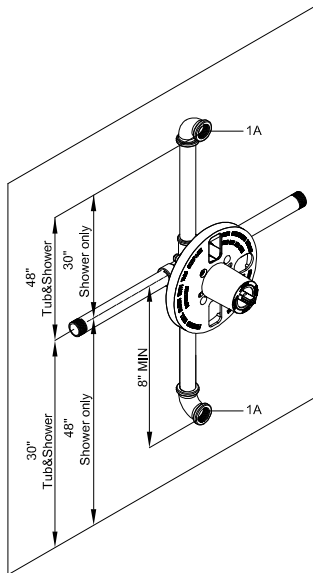

Fig. 1
- Recommended component locations: (see Fig. 1)